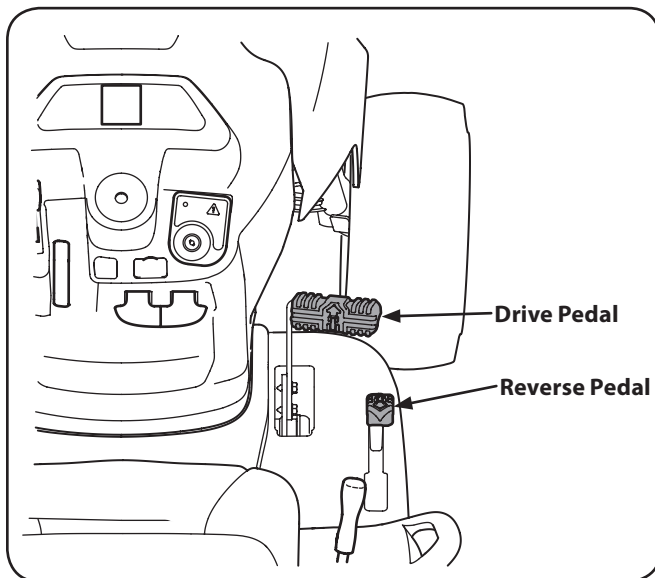

Figure 5-1
2. To travel FORWARD, slowly press the upper portion of the drive pedal forward until the desired speed is achieved. See "Figure 5-1" on page 16.
To travel in REVERSE, check that the area behind is clear then slowly depress the reverse pedal with the ball of your foot (NOT your heel) until the desired speed is achieved. See Figure 5-1.